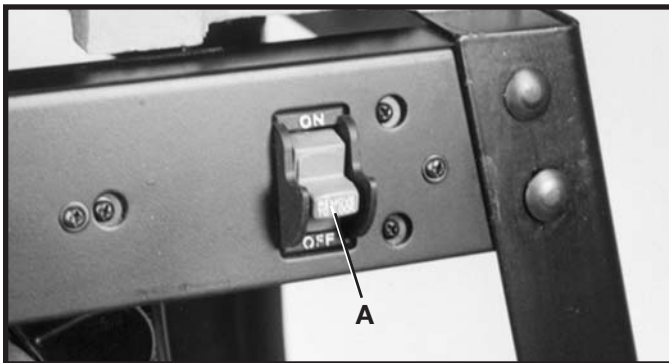
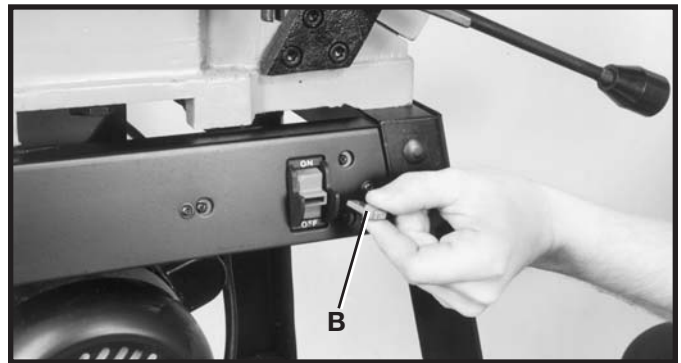

Fig. 33
Fig. 34
1. The on/off switch (A) Fig. 33 is located on the front of the jointer. To turn the machine **“ON”**, move switch (A) up to the **“ON”** position.
**IMPORTANT:** When the tool is not in use, the switch should be locked in the **“OFF”** position to prevent unauthorized use. To lock the switch, grasp the switch toggle (A) Fig. 33 and pull it out of the switch. With the switch toggle (B) Fig. 34 removed, the switch will not operate. However, should the switch toggle be removed while the saw is running, the machine can be turned **“OFF,”** but cannot be restarted without re-inserting the switch toggle (B).